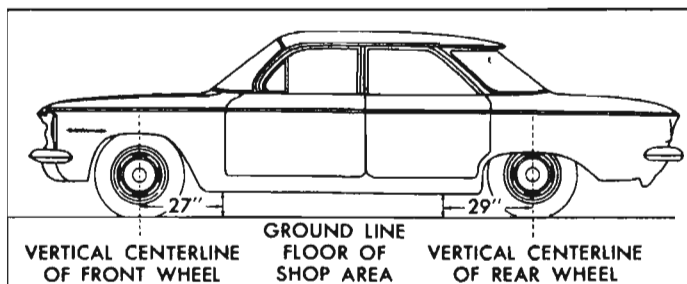

Fig. 3-10—Checking Riding Height
3. Measure the distance from the floor of shop area to the bottom of the rocker panel 27 inches back from the centerline of the front wheel (fig. 3-10).